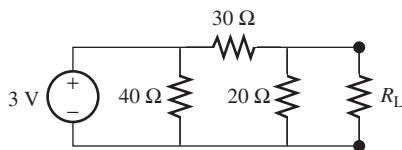

FIGURE P3.55 Circuit for Problem 3.55.
- 3.55 (A) Find the Norton equivalent as seen by R_L in the circuit in Figure P3.55.